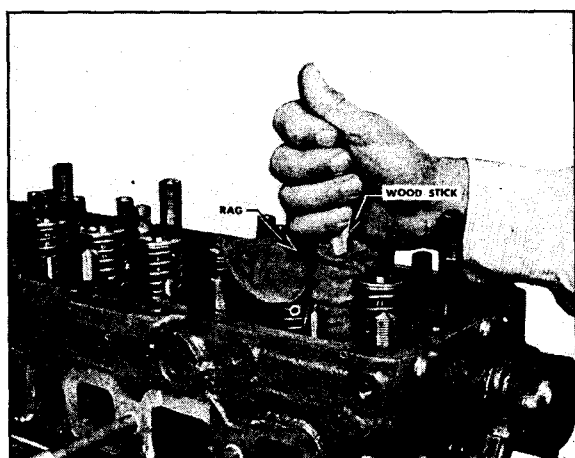

Fig. 12-48. Cleaning injector sleeves
1. Before installing an injector, wrap a clean cloth around a wooden stick, clean out the injector sleeves in the cylinder head and carefully wipe the injector cup seat. Never use a metal rod or waste in this cleaning operation. Never attempt to scrape the injector seat. The sleeve and seat are copper, to allow faster heat dissipation, and are easily scratched or marred. Fig. 12-48.